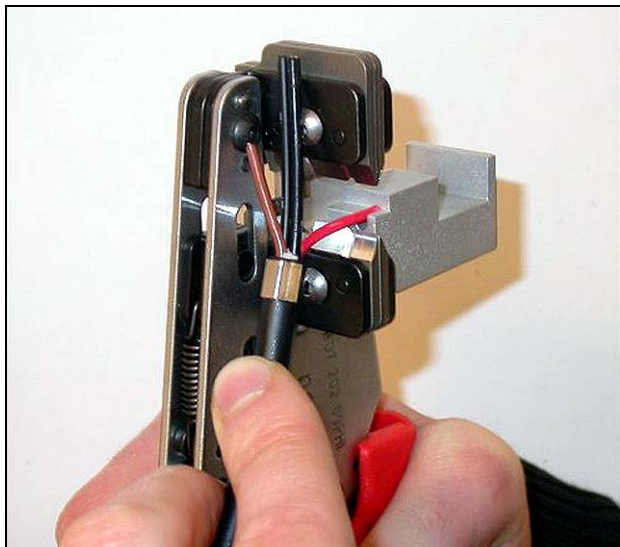

figure 3.7: Stripping a copper wire
- 9 Strip the red and brown insulations from the copper wires by pushing them to the mechanical stop of the stripping tool (tool 5, see figure 3.7).